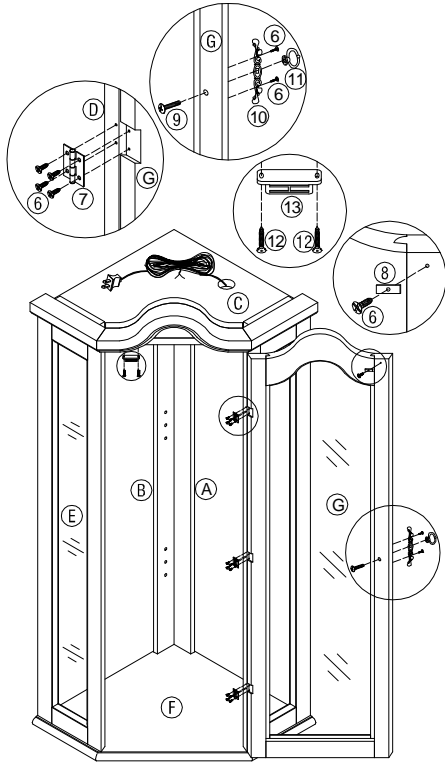

Figure 4
INSERT FLAT HEAD SHORT SCREW (6) THROUGH MAGNET PLATE (8) AND TIGHTEN INTO PREDRILLED HOLE ON UPPER DOOR (G). INSERT FLAT HEAD SHORT SCREWS (6) THROUGH METAL PLATE (10) AND TIGHTEN INTO PREDRILLED HOLES ON UPPER DOOR (G). INSERT SMALL MACHINE SCREW (9) THROUGH PREDRILLED HOLES ON UPPER DOOR (G), METAL PLATE (10) AND TIGHTEN INTO HANDLE (11). INSERT FLAT HEAD SHORT SCREWS (6) THROUGH THE HOLES ON HINGES (7) AND TIGHTEN INTO PREDRILLED HOLES ON EDGES OF UPPER RIGHT SIDE PANEL (D) AND UPPER DOOR (G). INSERT ROUND HEAD SCREWS (12) THROUGH END OF MAGNET (13) AND TIGHTEN INTO PREDRILLED HOLES ON UNDERSIDE OF TOP PANEL (C). AS SHOWN IN FIGURE 4.